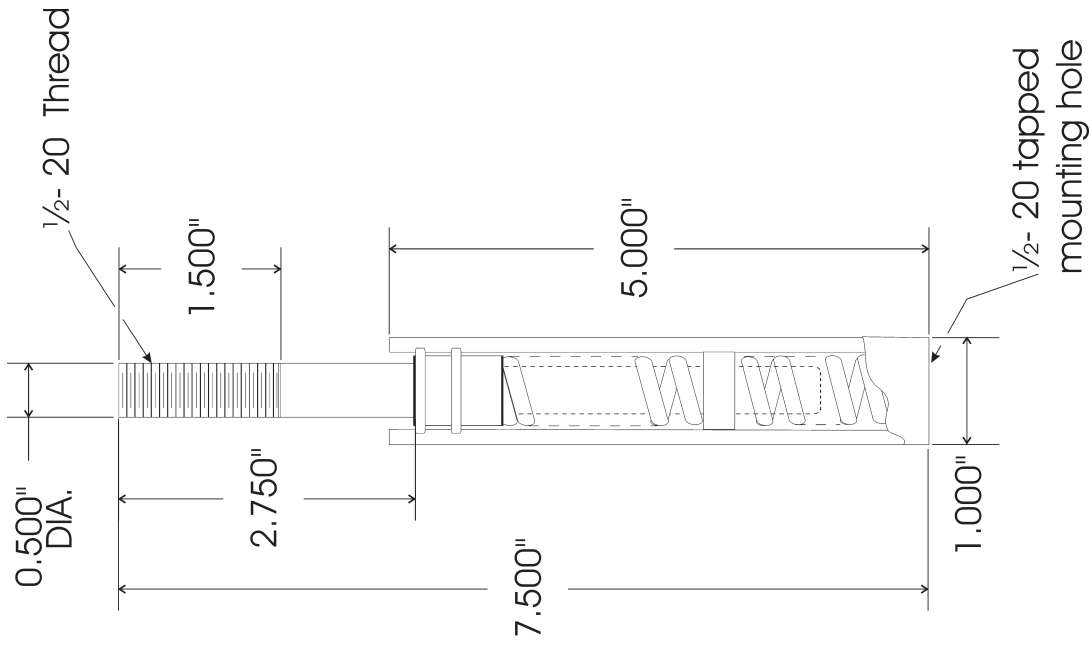

Figure 1: Dimensions
7. Figure 1 shows the arrangement for a valve mounted in a horizontal line. Rotate the assembly 90° for a valve mounted in a vertical line.